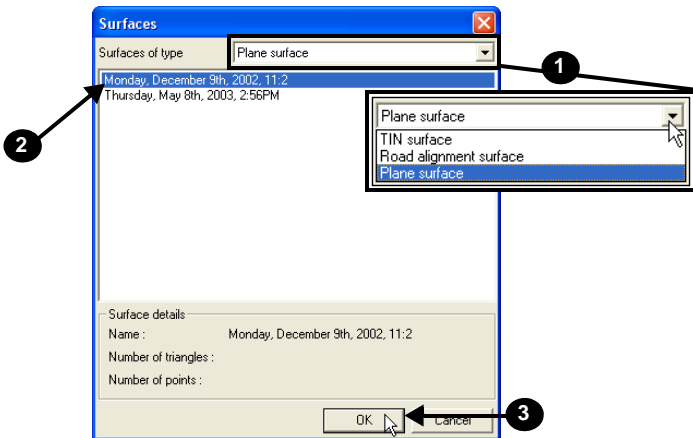

Figure 5-19. Compare Surfaces in 3D Project File
2. Select the *Surface of type* to compare with from the drop-down list (Figure 5-19 on page 5-21).